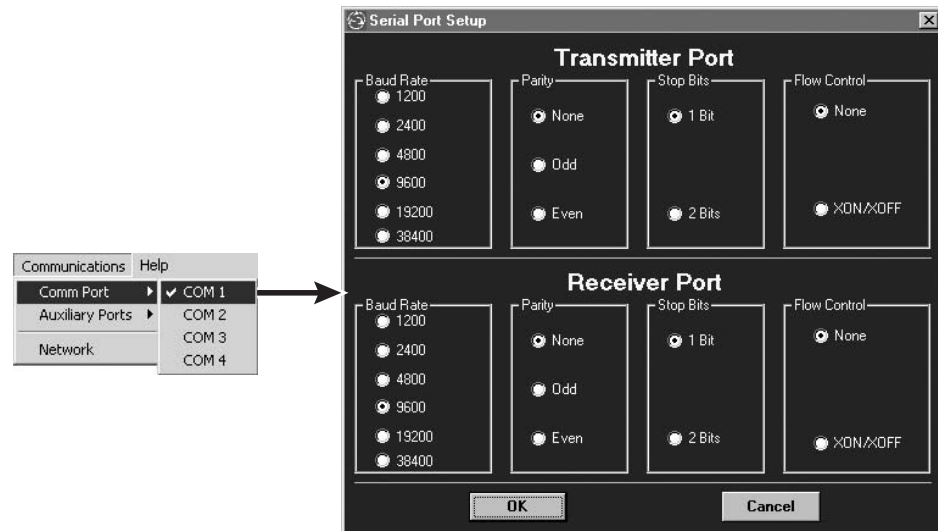

Figure 4-6 — Serial Port Setup window
1. Click *Communications > Comm Port > Comm 1* (or the correct *Comm* port). The Serial Port Setup window appears (figure 4-6).